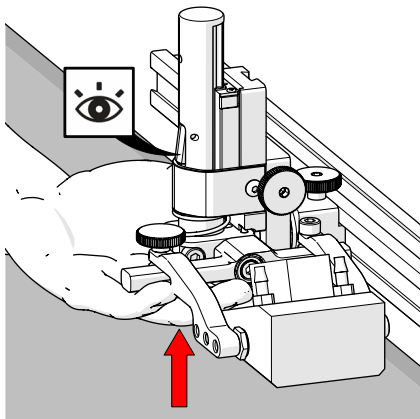
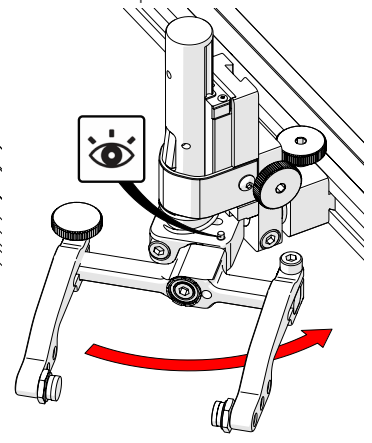

Fig. 83 - Latch probe holder
Fig. 89 - Stop post locates 90°
until the latch is fully exposed and snaps out to lock (Fig. 83).
1. Ensure the probe holder is in the latched upper position (Fig. 83).
To return the transverse adjustment to neutral (90°). The probe holder must be in the latched, upper position (Fig. 83). Rotate the yoke until the stop post contacts the base of the probe holder (Fig. 89). Then tighten the transverse adjustment screw.